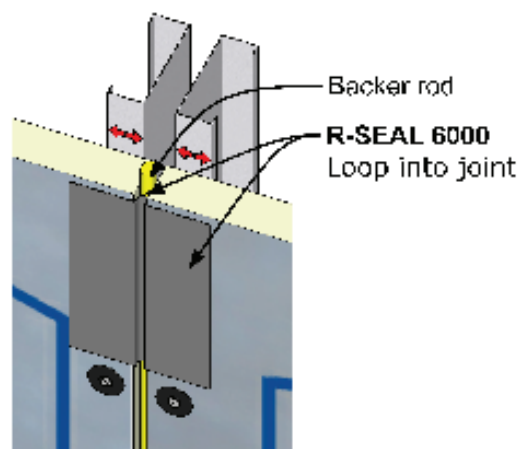

Figure 13
D. For dynamic joints up to $\frac{3}{4}$ ", R-SEAL 6000 flashing may be used to seal the insulation boards. Install a backer rod and/or bond breaker as required and loop flashing inside the joint to allow for movement. **Reference Figure 13.** The R-SEAL 6000 must extend a minimum of 3" onto each surface. Loop dimensions will vary based on joint performance requirements.